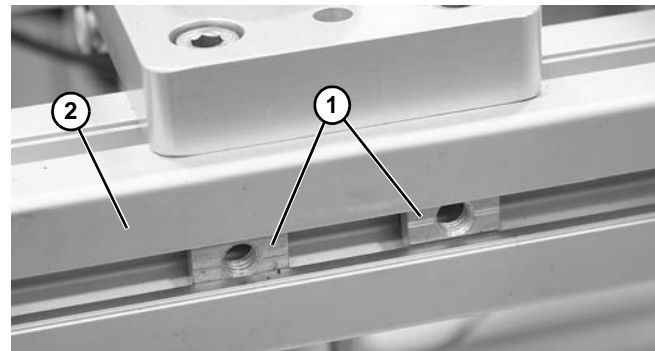

**Figure 19**
2. Raise or lower bottom plate (**Figure 19, item 1**).